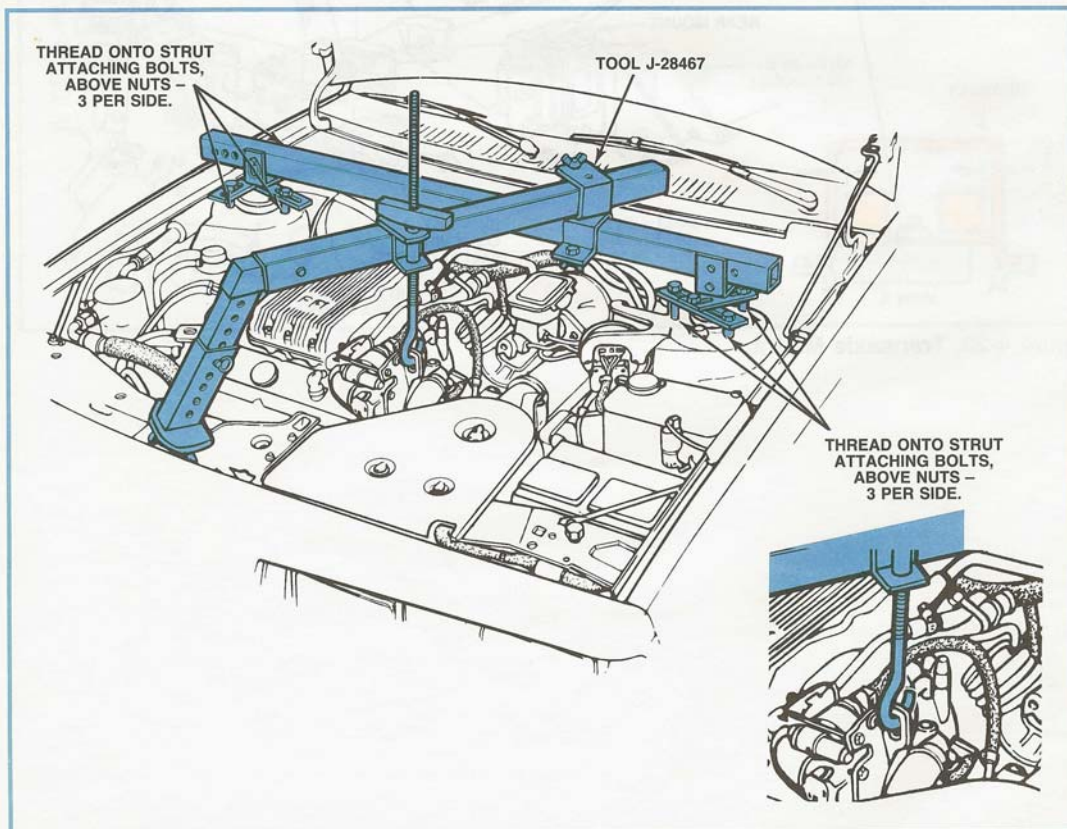

Figure 4-21, Engine Support Fixture.
2. Install engine support fixture (Figure 4-21). Raise engine to take pressure off the motor mounts.
2. Install engine support fixture (Figure 4-21). Raise engine enough to take pressure off motor mounts.